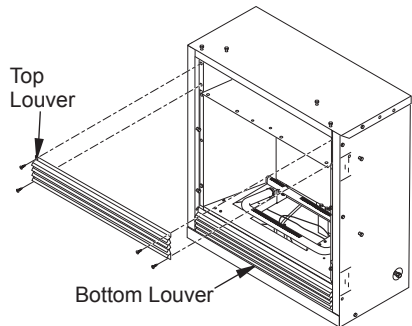

Figure 12 - Removing Top Louver and Opening Bottom Louver
2. Remove 4 screws from upper louver (see Figure 12). Save these screws.
4. Open lower louver door by swinging door down (see Figure 12).